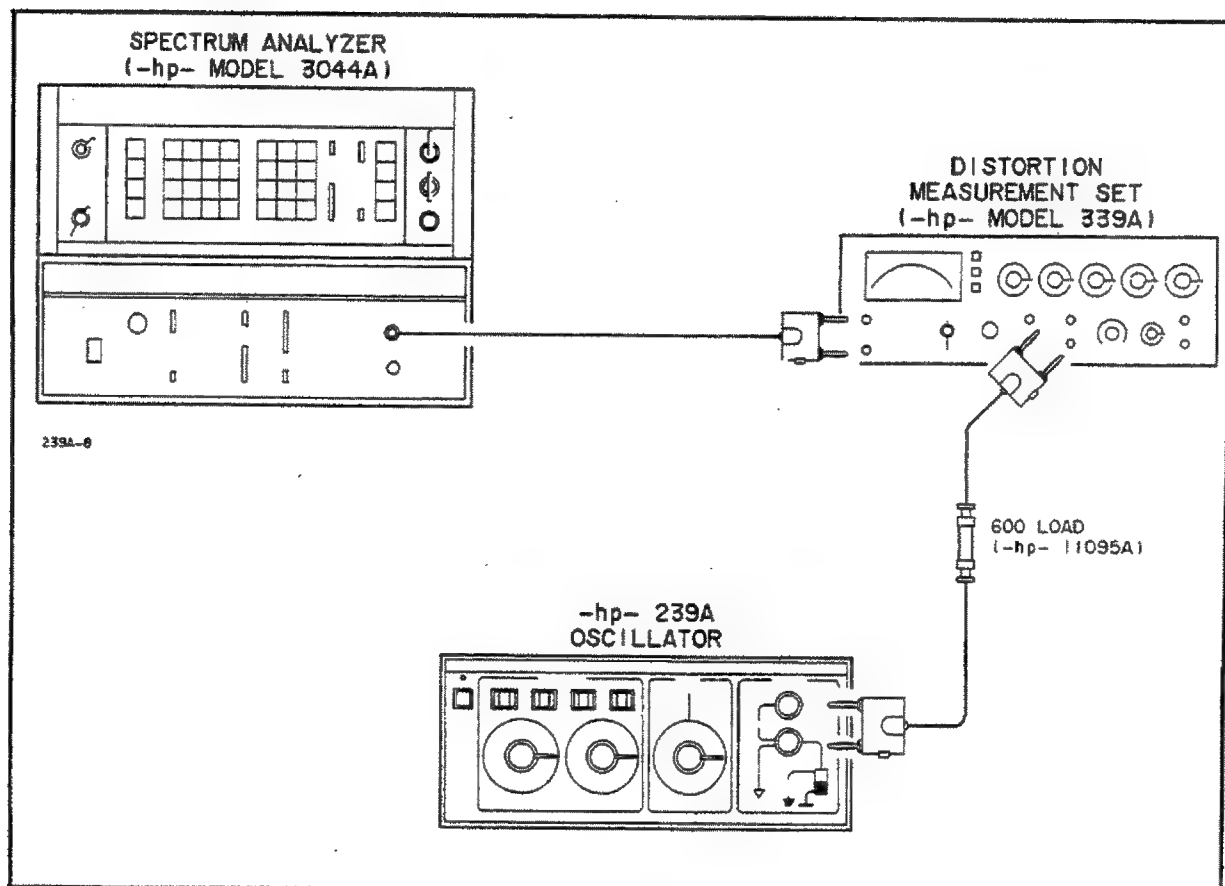

Figure 4-2. Total Harmonic Distortion Test.
- b. Connect the equipment as shown in Figure 4-2.